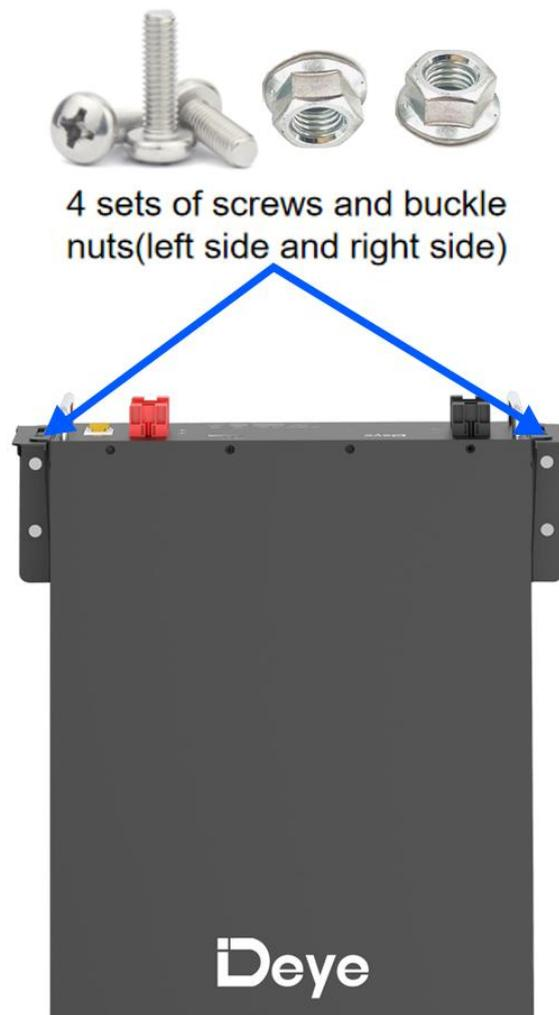

Figure 4-4
- e. Carry the battery and hold it. Fix the battery to the support after fixing it to the wall. Ensure that battery mounting ears are aligned with the left and right holes on the support, as shown in Figure 4-4.